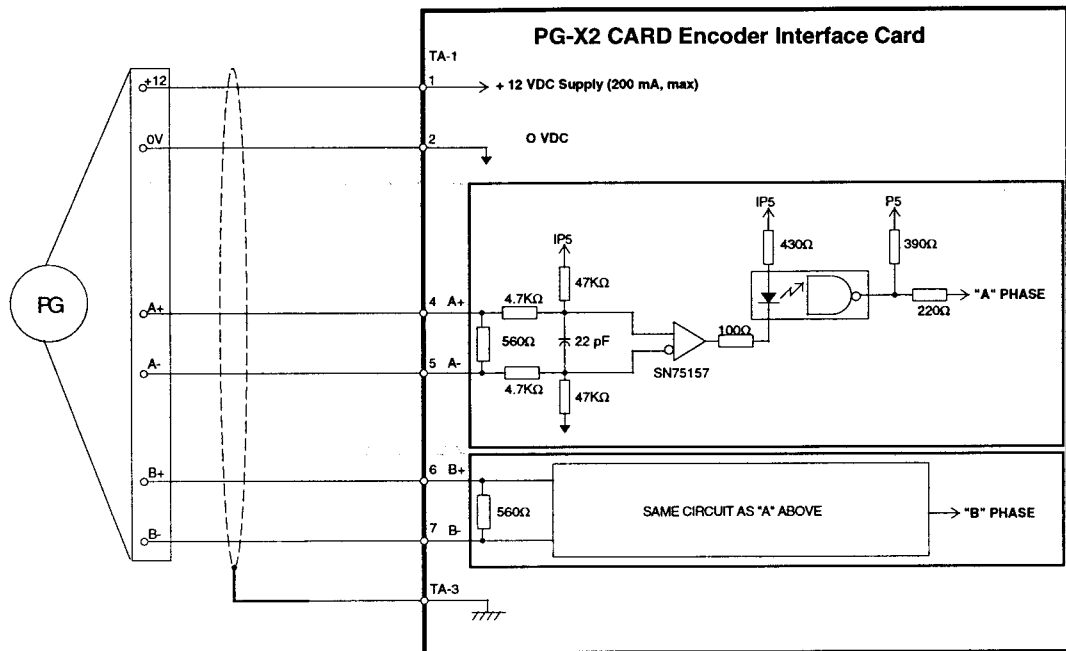

Figure 1.26: Generic Encoder
2. Referring to Figure 1.26: Generic Encoder and “PG-X2 Encoder Interface Card Terminal Functions,” connect the encoder to the PG-X2 Encoder Interface Card.